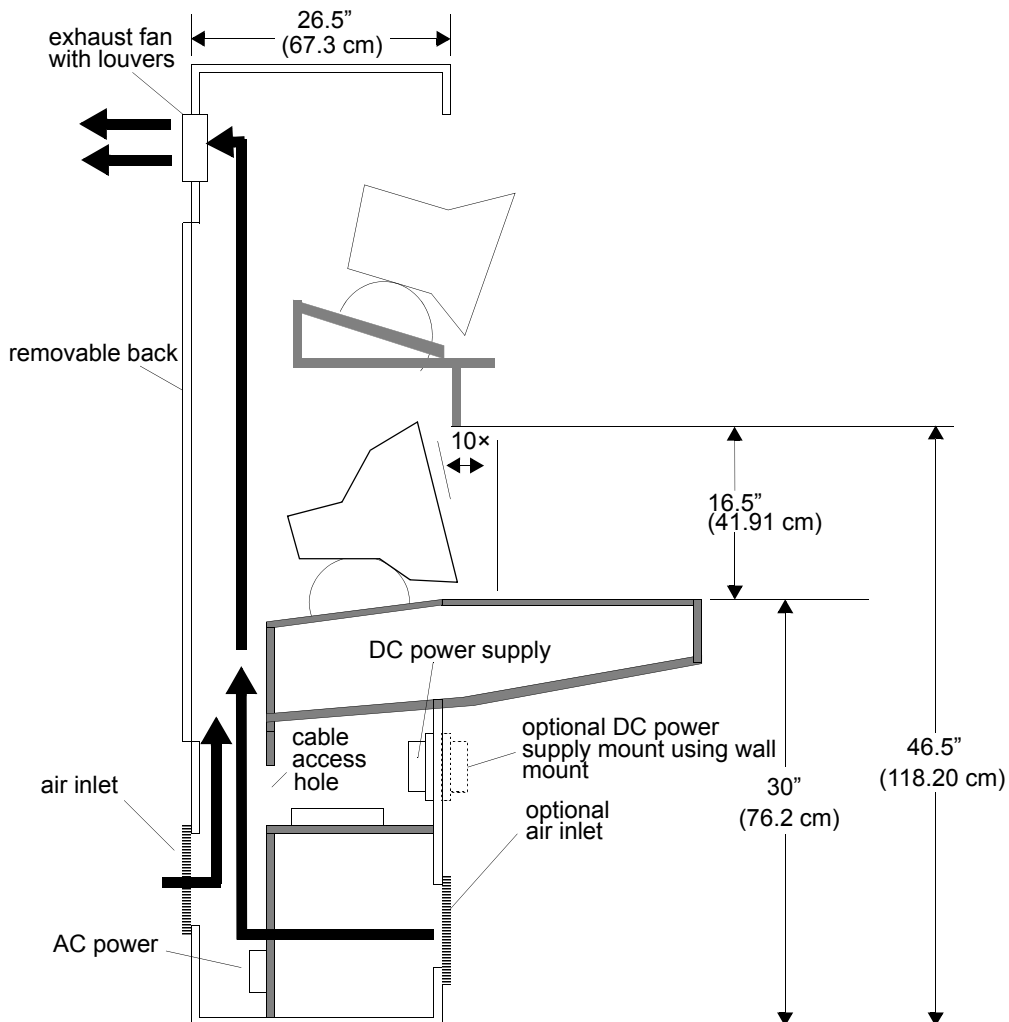

Figure 2-4: Minimum cavity sizes for console setup
An example console design is shown in *Figure 2-4*. This figure shows the minimum dimensions required to satisfy the above requirements.
- When mounting the Ultraview 1600 as shown in Figure 2-4, this cabinet specification may not allow for appropriate clearance for displays larger than 15 inches (38.1 cm).